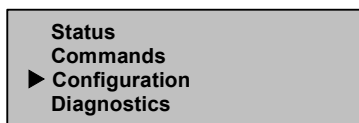

Figure 37: Main menu
1. On the main menu, scroll to Configuration. (See Figure 37.)